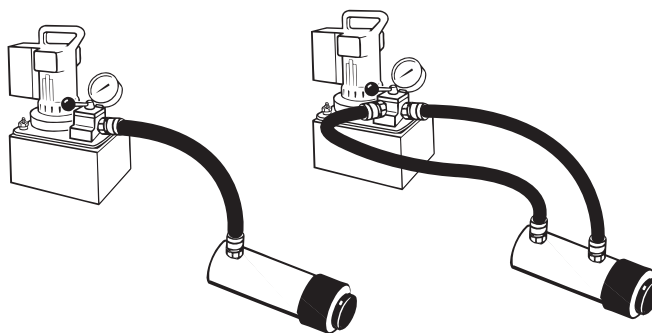

Figure 2. System Bleeding
2. See Figure 2. Place the cylinder at a lower level than the pump.